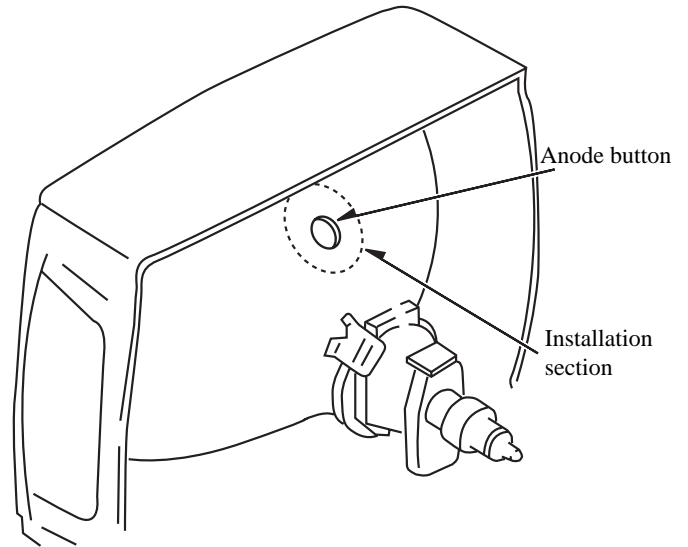

Fig. 2
- (1) Use a clean cloth moistened slightly with alcohol to clean the installation section. (See Figure 2)
- (2) Coat the anode cap installation circumference with an appropriate amount of the specified silicone grease (KS-650N). (See Figure 2)